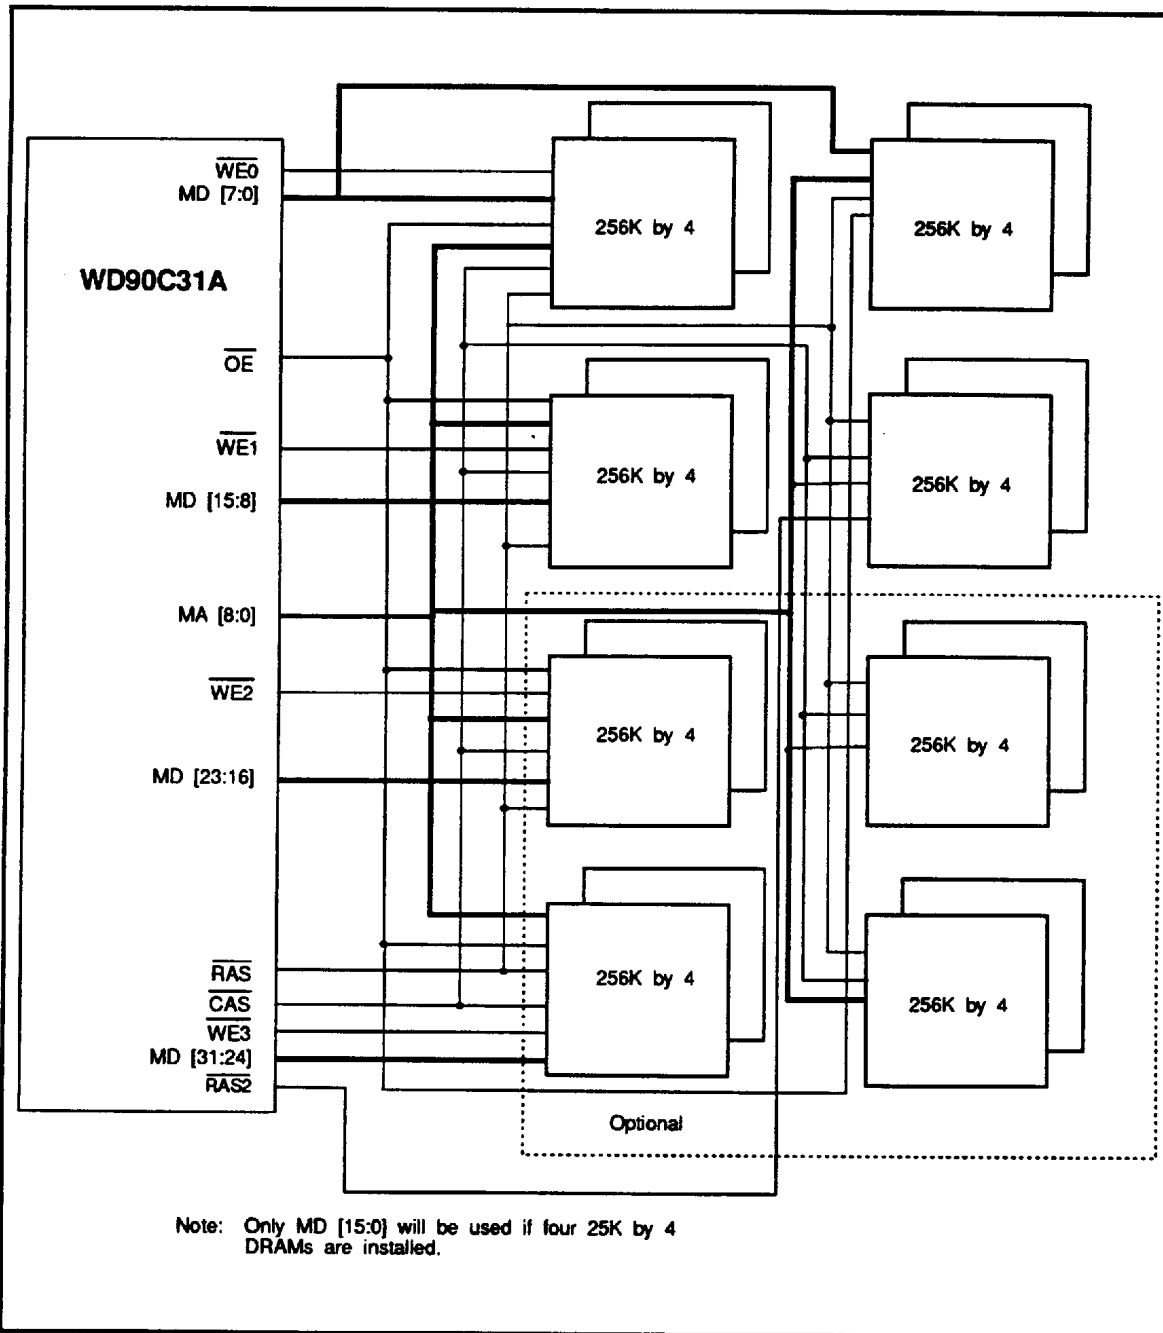

FIGURE 3-9 FOUR OR EIGHT 256K BY 4 DRAM INTERFACE
- Figure 3-9. Four Or Eight 256K by 4 DRAM Interface
Figure 3-9 shows the interface between four or eight 256K by 4 DRAMs and the WD90C33 Controller.